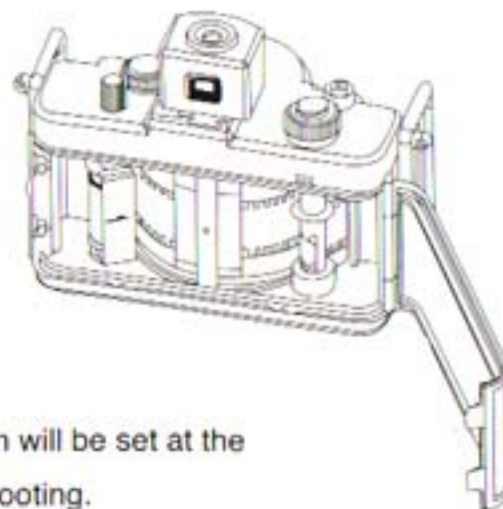

Fig 7
⑤ See Fig.7 for finished status of loading film.